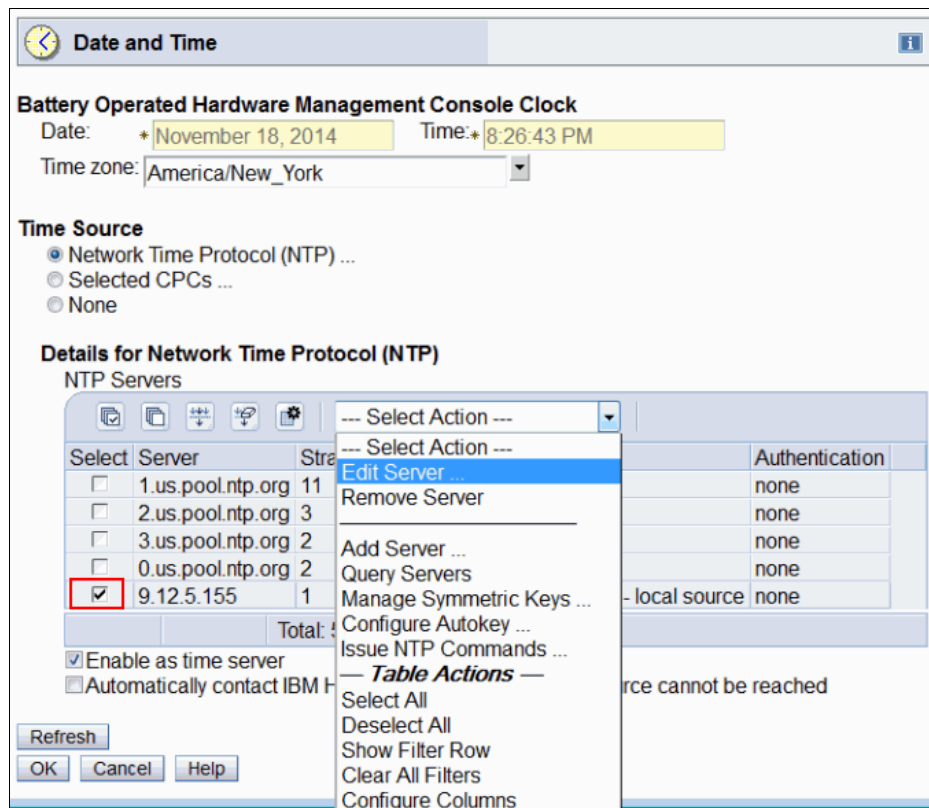

Figure 9-18 HMC: Customize Console Date and Time Server selection to edit server
- Select the check box for the server name you want to modify and then click **Select Action** → **Edit Server** (Figure 9-18).